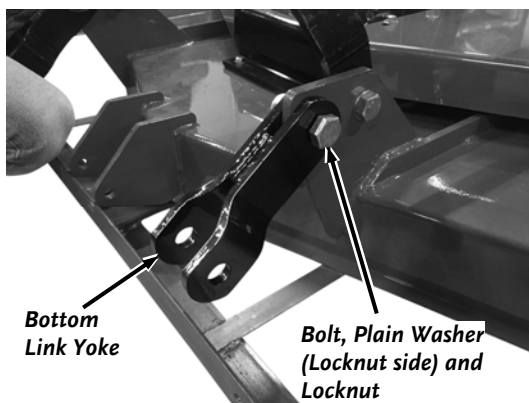

Figure 10
7. Install the two Bottom Link Yokes to the Front Deck Tabs with two M18X55 Bolts (#40857), M18 Plain Washers and M18 Locknuts using two 27mm Wrenches (**Figure 10**).